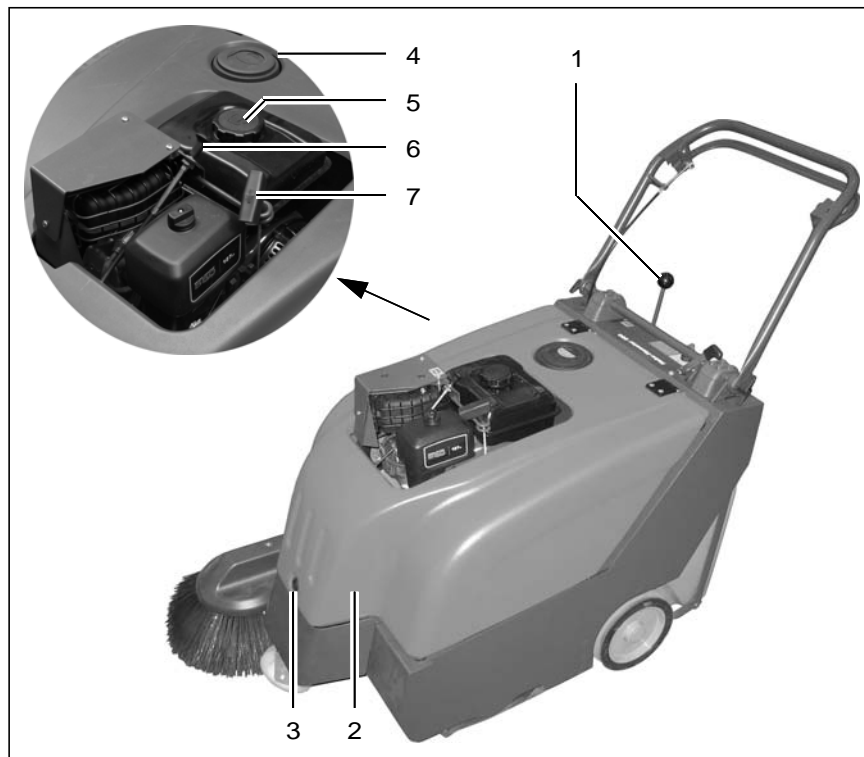

Fig. 7
Unscrew the fuel tank cap (Fig. 7/5) and fill approx. 2.5 l gasoline. Screw the fuel tank cap back on.
Side brush lever (Fig. 7/1)
Hood with lock (Fig. 7/2)
The hood should only be opened for maintenance and repair work. In this case, unlock the lock (Fig. 7/3) using a square wrench and pivot the hood up.
Bypass flap (Fig. 7/4)
Fuel tank cap (Fig. 7/5)
Choke (Fig. 7/6)
Recoil starter (Fig. 7/7)
2. Pull out the choke (Fig. 7/6) in the case of a cold start.
3. Pull the recoil starter cord (Fig. 7/7) until the starter clutch perceptibly en-
gages (slight resistance) and then pull the starter cord (Fig. 7/7) hard and fast to start the engine.
4. Release the starter cord (Fig. 7/7) and let it recoil back into the housing.
5. Then push the choke (Fig. 7/6) back in, slowly.